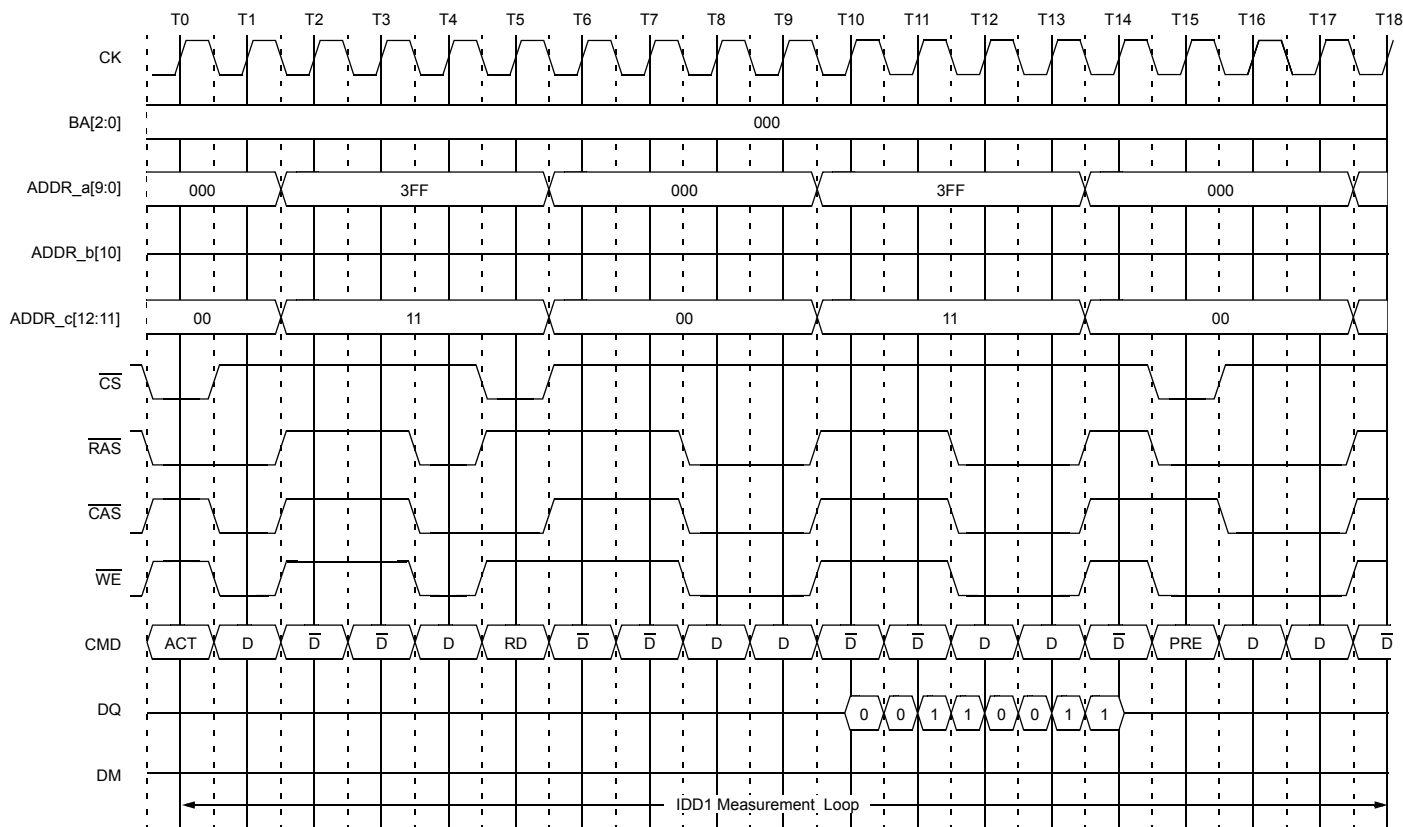

Figure 1
Command (\overline{CS}, \overline{RAS}, \overline{CAS}, \overline{WE}):	Define $D = \{\overline{CS}, \overline{RAS}, \overline{CAS}, \overline{WE}\} := \{HIGH, LOW, LOW, LOW\}$ Define $\overline{D} = \{\overline{CS}, \overline{RAS}, \overline{CAS}, \overline{WE}\} := \{HIGH, HIGH, HIGH, HIGH\}$ Define Command Background Pattern = D D \overline{D} \overline{D} D D \overline{D} \overline{D} D D \overline{D} \overline{D} ... If other commands are necessary (e.g. ACT for IDD0 or Read for IDD4R) the Background Pattern Command is substituted by the respective \overline{CS} , \overline{RAS} , \overline{CAS} , \overline{WE} levels of the necessary command. See each IDDX definition for details and figures 1,2,3 as examples.
Data (DQ)	Data DQ is changing between HIGH and LOW every other data transfer (once per clock) for DQ signals, which means that data DQ is stable during one clock; see each IDDX definition for exceptions from this rule and for further details. See figures 1,2,3 as examples.